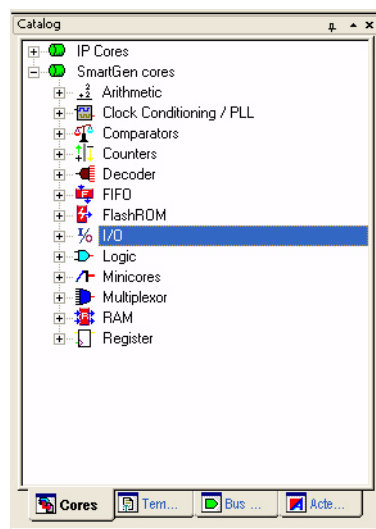

Figure 13-2 • SmartGen Catalog
2. On the left-hand side of the Catalog View, select I/O, as shown in Figure 13-2.